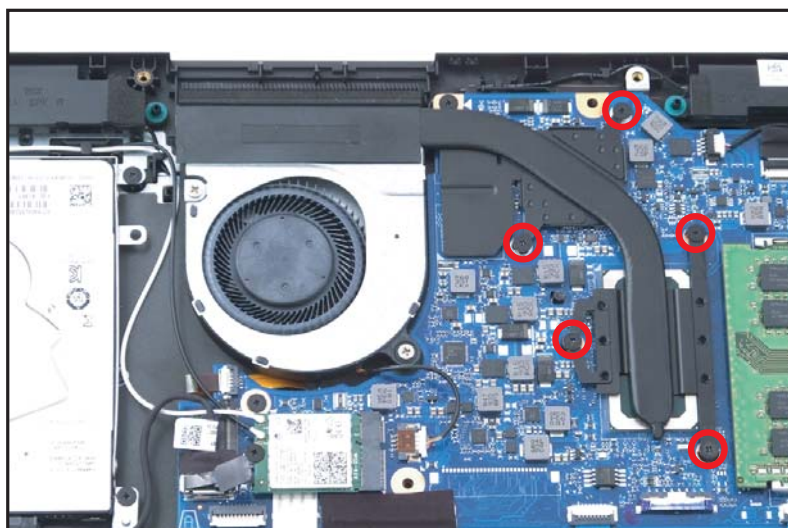

Figure 1-16. Heatsink Removal
1. Remove five (5) screws securing the CPU heatsink in place (Figure 1-16).